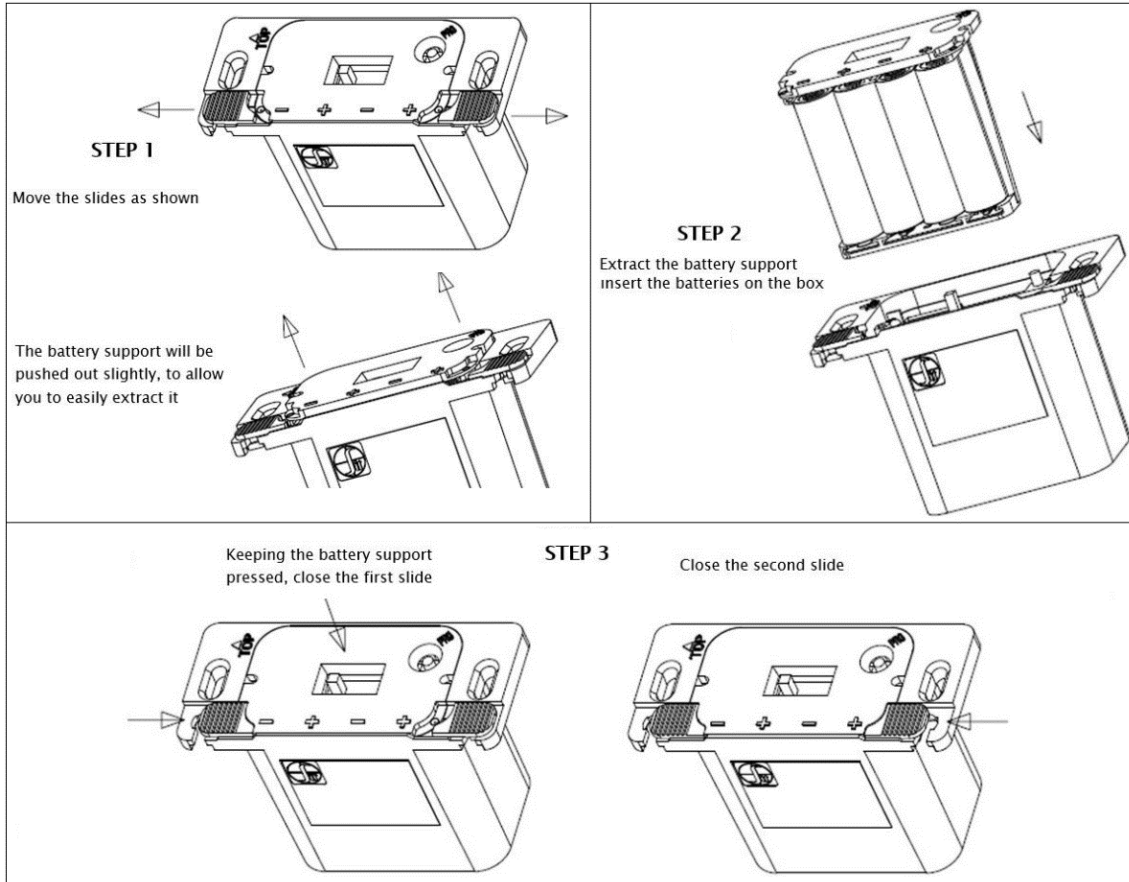

Figure 11 - Control Switch Battery Bay
1. Follow Steps 1-3 shown in Figure 11.